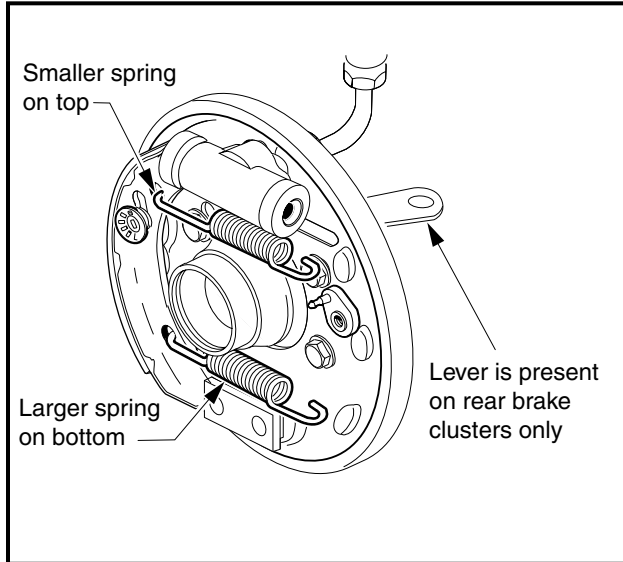

Figure 6b-13 Brake Shoe Tensioning Springs
3. Attach the tensioning springs onto the shoe already installed, with the smaller spring on top and the larger spring on the bottom. Make sure that the park brake strut and lever are engaged into the slots provided in each shoe, located immediately above the top spring attachment holes (**Figure 6b-13, Page 6b-15**).
4. Position the bottom tips of both shoes into the brake shoe mounting block, the top tips of the shoes into the slots in the wheel cylinder pistons, and the park brake lever and strut into the slots in the shoes located just below the top, smaller spring. Attach the free ends of tensioning springs to the loose shoe and push the shoe into place (**Figure 6b-14, Page 6b-15**).